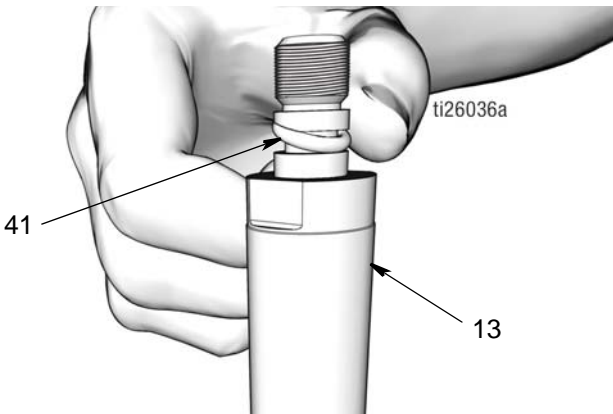

FIG. 47
- a. Use a clean cloth to wipe down the piston rod (13) and piston (6) and remove any dirt or contaminants. Inspect surfaces for any scratches or damage. Replace damaged parts.
- b. Apply a thin layer of grease to o-ring (41). Install o-ring over the grooves of the piston rod (13) (FIG. 47).